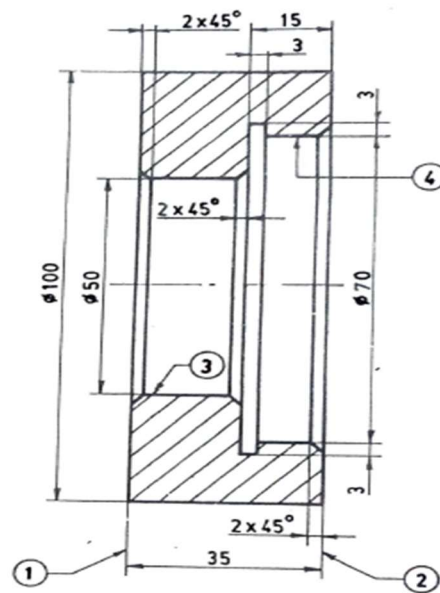

Figure-5 Sleeve
2. To prepare the shop floor drawing of Sleeve given in figure-5 by incorporating all the specified requirements.